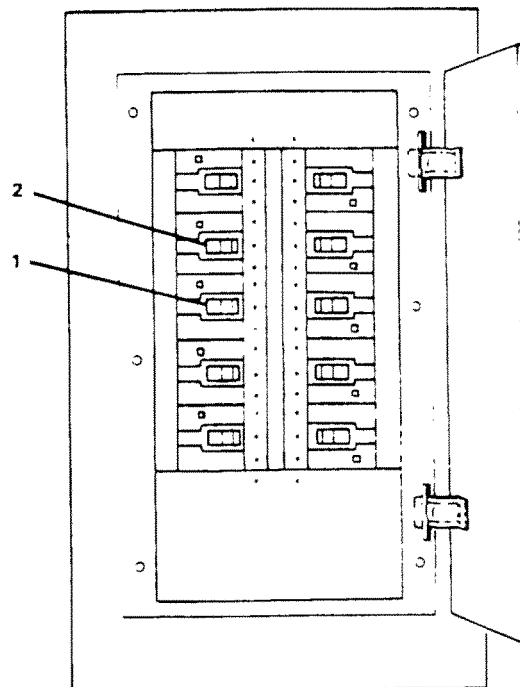

Figure 2-183. Auxiliary Machinery Space No. 1 Power Panel No. 4.
1 On auxiliary machinery space no. 1 power panel no. 4 (Figure 2-183), set HOT POT WTR REC; PMP circuit breaker (1) to ON position.